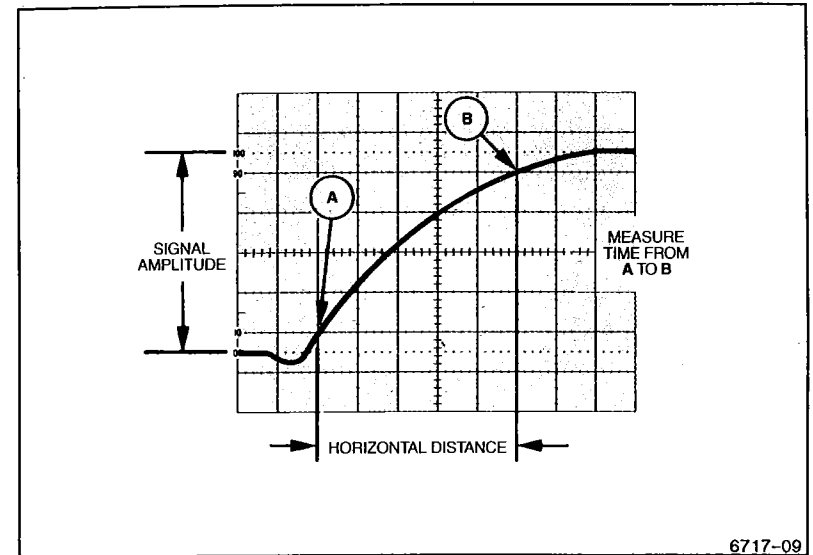

Figure 3-6. Measuring rise time.
4. Horizontally position the display so the 10% point on the waveform intersects the second vertical graticule line (Figure 3-6, Point A).
5. Measure the horizontal distance between the 10% and 90% points (Figure 3-6, Points A and B) and calculate time duration using the following formula:
EXAMPLE. In Figure 3-6, the horizontal distance between the 10% and 90% amplitude points is 5 divisions, and the SEC/DIV switch is set to 1 μs per division. HORIZONTAL MAG is set to X1.